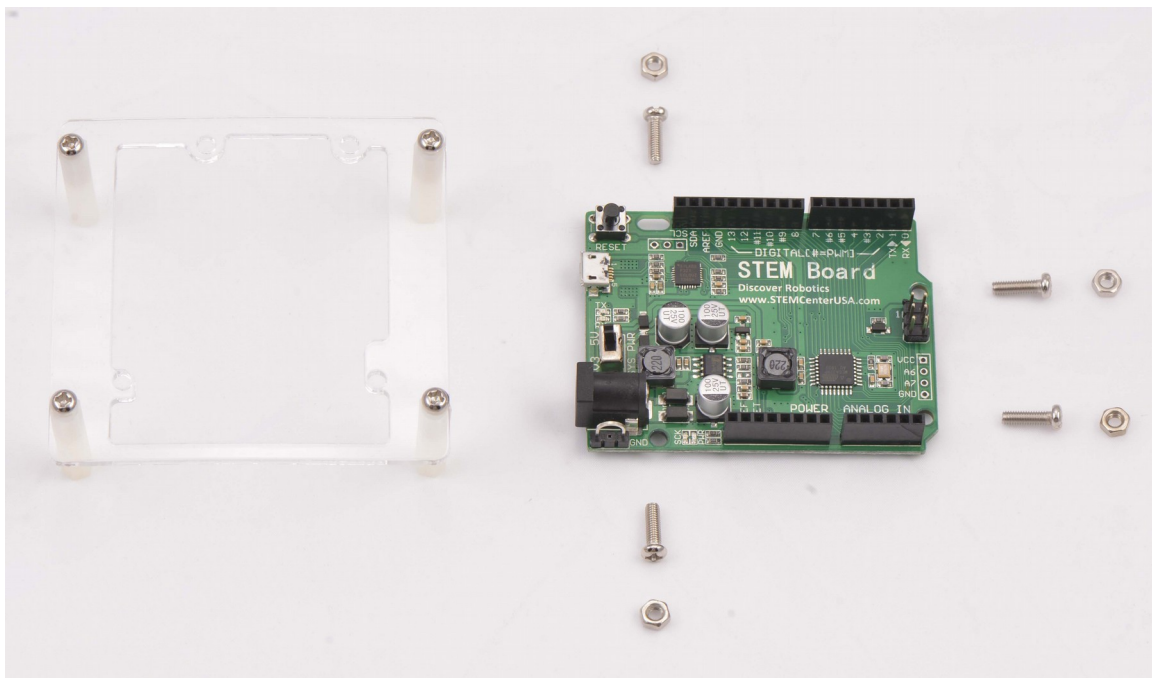

Figure 2.17
Attach the STEM Board microprocessor to the top of the clear plastic mounting plate using four (4) 4-40 x 3/8" screws and four (4) 4-40 nuts. See figures 2.17 and 2.18.